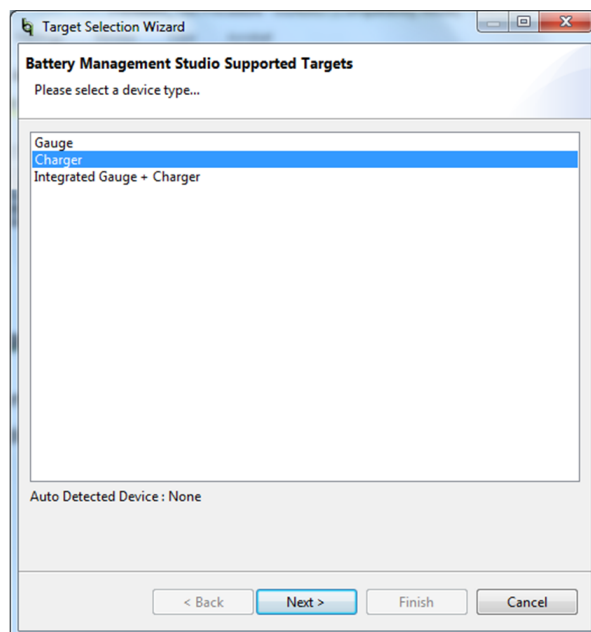
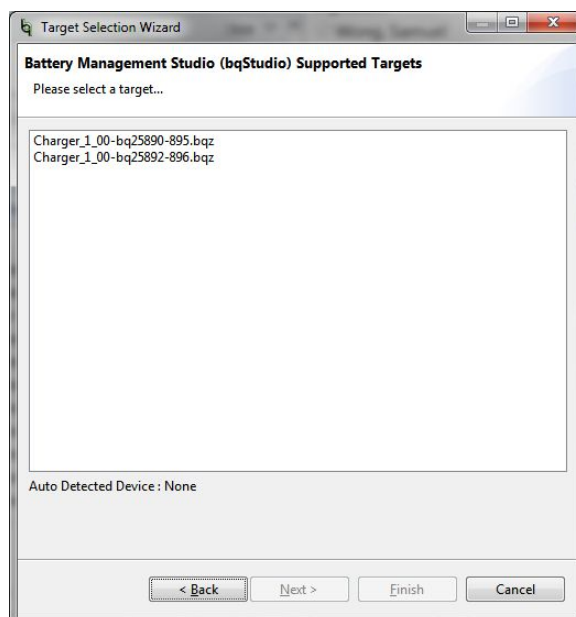

Figure 4. Start Window of the bq2589x Evaluation Software
Figure 5. Part Select Window of the bq2589x Evaluation Software
9. Turn on the computer. Launch the bq2589x evaluation software, choose *Charger* as shown in Figure 4, then choose the appropriate .bqz file as shown in Figure 5.
Figure 5 illustrates the following part selection options: